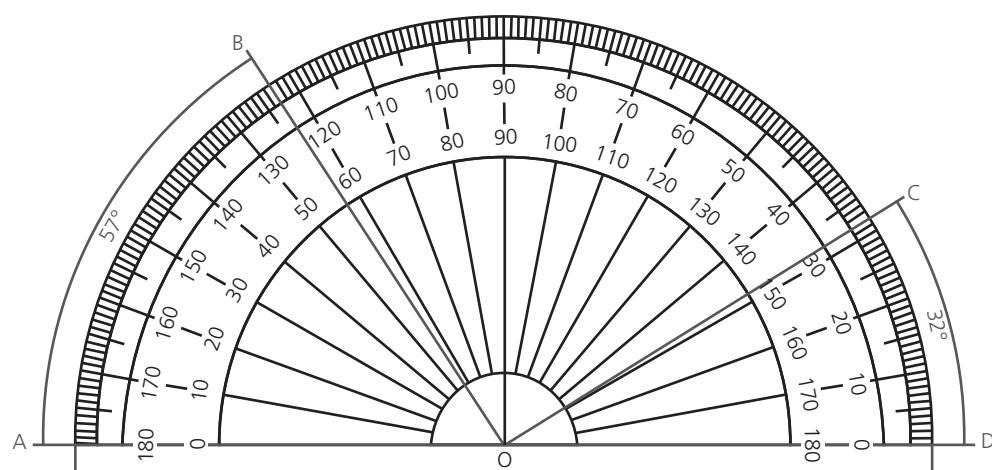

Figure 5 Using a protractor
When the angle between two intersecting lines OA and OB is required, set the horizontal (0–180°) line of the protractor on one of the lines (OA) and the zero dot of the protractor on the intersection point of the lines (O). The angle AOB = 57° can then be read off the inner scale of the protractor as shown in Figure 5. Similarly, the angle between lines OD and OC, angle DOC = 32°, can be read from the outer scale.